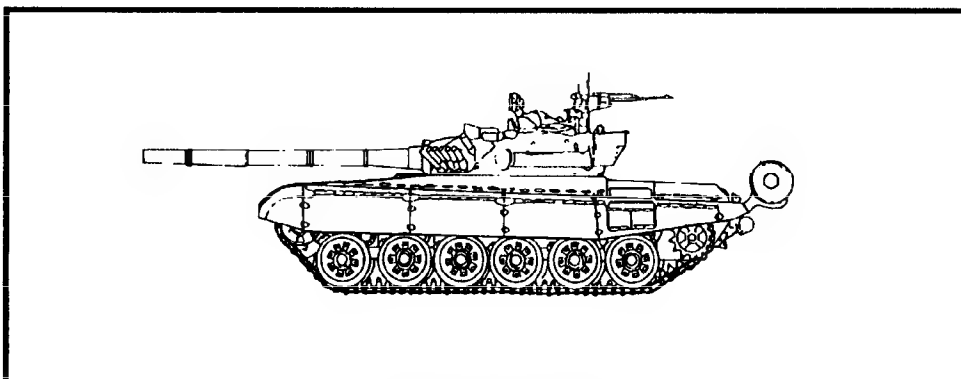

Figure F-3. T-72M1.
(3) *T 72M1* (Figure F 3). The T 72M1 is an improved version of the basic T-72. Visual differences include full track skirts, smoke grenade launchers, and no right-hand optic. Significant differences include a probable laser range finder, thicker upper glacis, thicker frontal turret armor, applique armor on the turret roof, and provisions for mounting reactive armor. Overall,